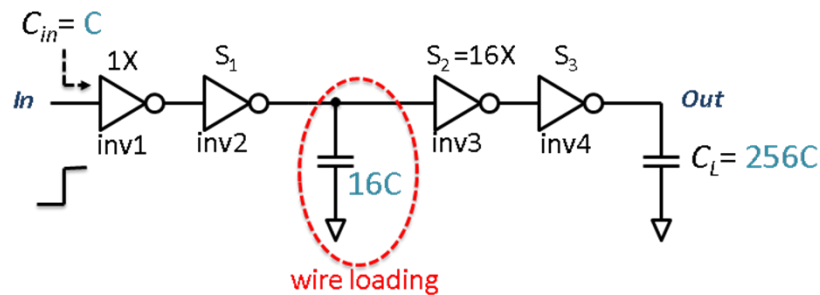

Fig. 1(b) Inverter Chain with Wire Loading
- (d) In Fig. 1(b), we take the capacitive loading of the metal wire between inv2 and inv3 into consideration. This wire loading is modeled as a capacitor which is equal to $16C$ as shown in Fig. 1(b). Assume the sizing factor S_2 is $16X$ and you can only choose the sizing factor S_1 and S_3 . What are the optimal values of S_1 and S_3 for minimum delay? What is the delay (in units of t_{inv})? (10 pts)